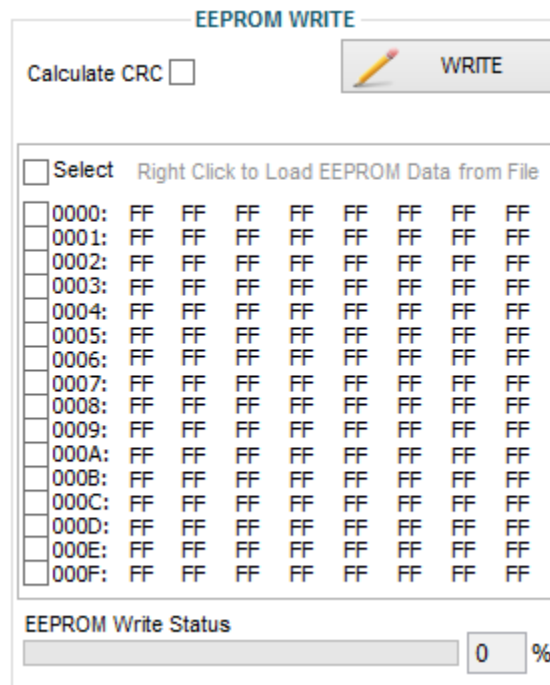

Figure 2-31. EEPROM Data Loaded
- When a particular file is selected, the data is loaded as shown in Figure 2-31. An individual byte can also be edited using the GUI before writing to the device. The Calculate CRC calculates the CRC as per the logic defined in the data sheet (SLDS209) for the write operation.